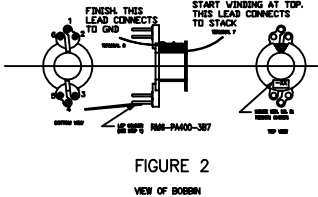

FIGURE 2
- INSTALL ITEM 1, BOBBIN, ON ITEM 20, FIXTURE. USE EXACTO KNIFE TO REMOVE ANY MOLDED FLASH FROM WINDING AREA ON BOBBIN. THEN A SMALL AMOUNT OF LINDSAY'S ON THE WINDING SURFACE WILL MAKE IT EASIER TO MAKE THE TURNS LEAD FLATLY. USE THE TIP OF THE EXACTO KNIFE TO SCRIBE A SERIAL NUMBER ON THE TOP OF THE BOBBIN IN THE AREA SHOWN IN FIGURE 2. LEAD ITEM 4, LAP SOLDER AN 8 CM LONG PIECE OF #28 BUS WIRE TO PIN 4 OF ITEM 1 AS SHOWN IN FIGURE 2.